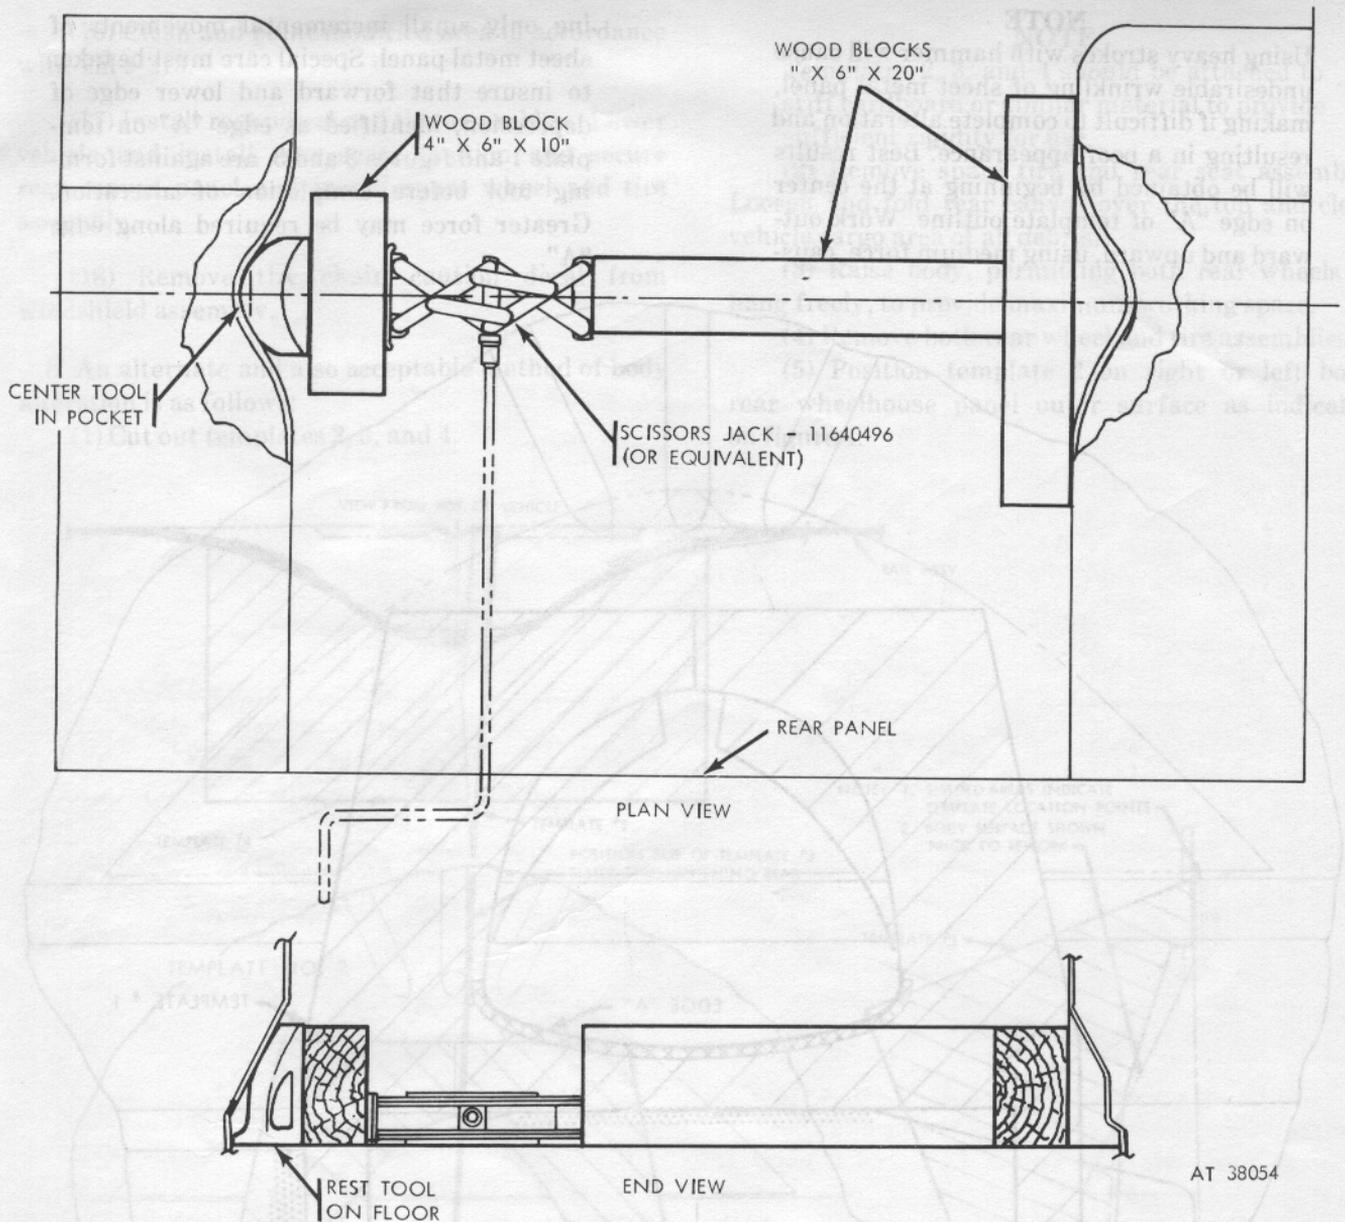

Figure 2. Application of forming tool.
(1) Remove spare tire and rear seat assembly. Loosen and fold rear canvas panel over the top and clear vehicle cargo area of all debris.
(2) Place forming tool, P/N 11660570 (fig. 1), flat on cargo floor and align forming tool with the spring pocket as shown in figure 2.
(3) Hold forming tool firmly in place using vehicle OVE scissors jack (or equivalent) as shown in figure 2.
Figure 2 shows arrangement of jack, forming tool, and shoring material (wood blocks) Scissors jack should be positioned to permit use of handle from rear of vehicle. One 4 x 6 x 20 - inch wood block must be centered as shown in figure 2 to insure proper load distribution on body side panel.